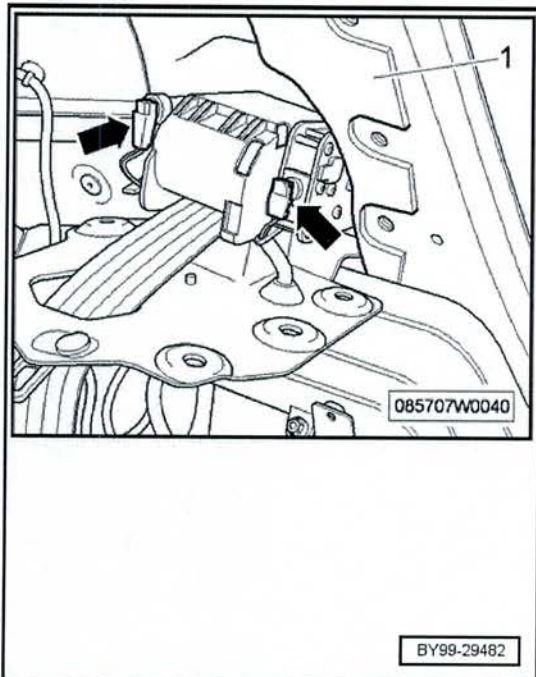

Figure 5
14. Move the retractor plate away from the body taking care not to damage the water shedder (1). If the water shedder is damaged, it must be replaced. (see Figure 5)